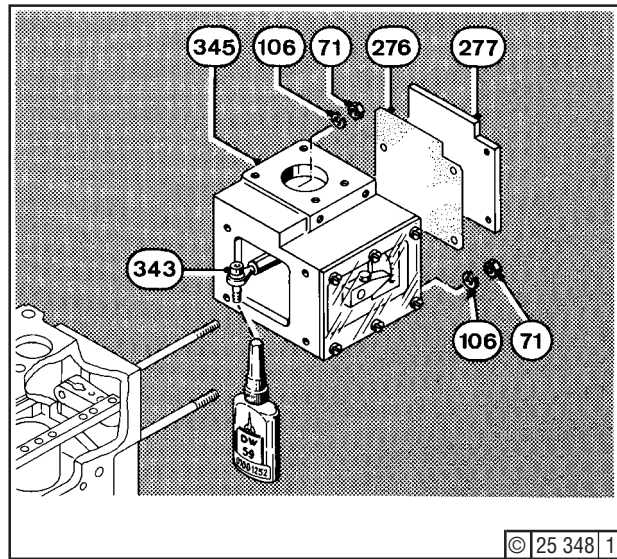

Fig. 5
Unscrew plug screw (64) - Fig. 2 - with sealing ring (206). Loosen and remove the cheese head screw (343) - Fig. 5 - underneath in the pump housing.